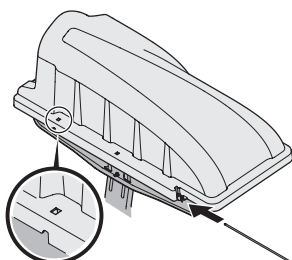
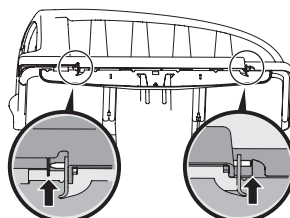

Figure 11
Figure 12
6. Slide the hinge pin (711-05079) into the hole located on the mounting tab, as in Figure 11. Use the cut-out window (See inset in Figure 11) to line up the hinge pin on the other side and push pin all the way in until it reaches the end-stop. At this point the pin clips into place and is secured by a tab in the bagger cover. See Figure 12.